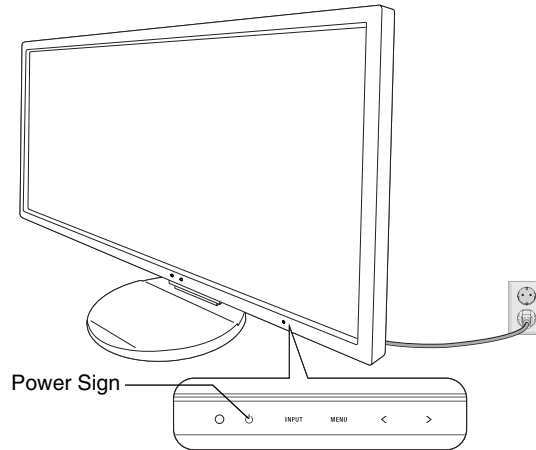

Figure E.1
8. Turn on the computer, then turn on the monitor by pressing the power sign on the front bezel (**Figure E.1**).